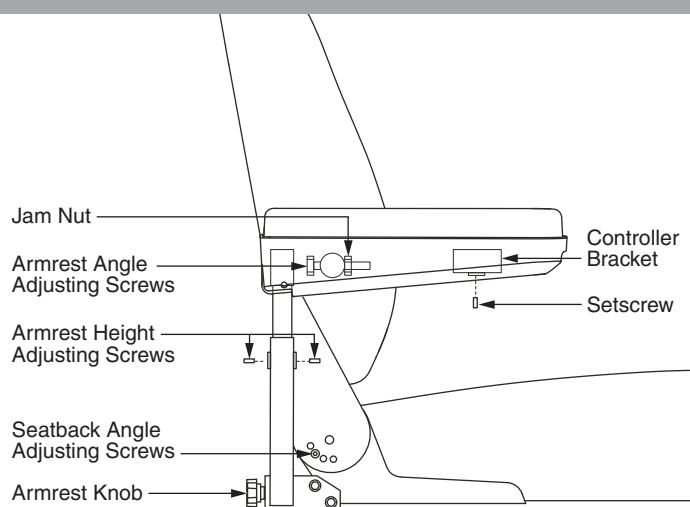

Figure 12. Seatback/Armrest Adjustment
1. Remove the adjusting screws from each seat hinge. **See figure 12.**
1. Locate the two armrest knobs on each side of the armrest receiver bracket. **See figure 12.**
1. Lift the armrest straight up so that it is perpendicular to the floor. **See figure 12.**
1. Loosen the two setscrews located on the armrest receiver. **See figure 12.**
2. Loosen the setscrew on the controller bracket. **See figure 12.**